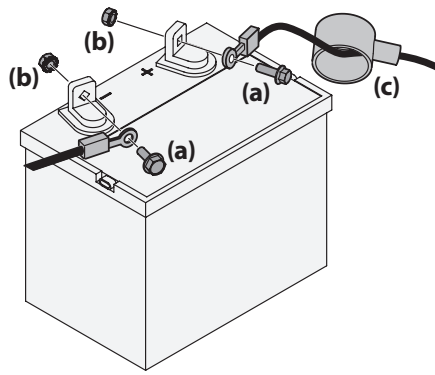

Figure 2
1. Remove the plastic cover, if present, from the positive battery terminal and attach the red cable to the positive battery terminal (+) with the bolt (a) and sems nut (b). See Figure 2.
- Remove the plastic cover, if present, from the negative battery terminal and attach the black cable to the negative battery terminal (-) with the bolt (a) and sems nut (b). See Figure 2.